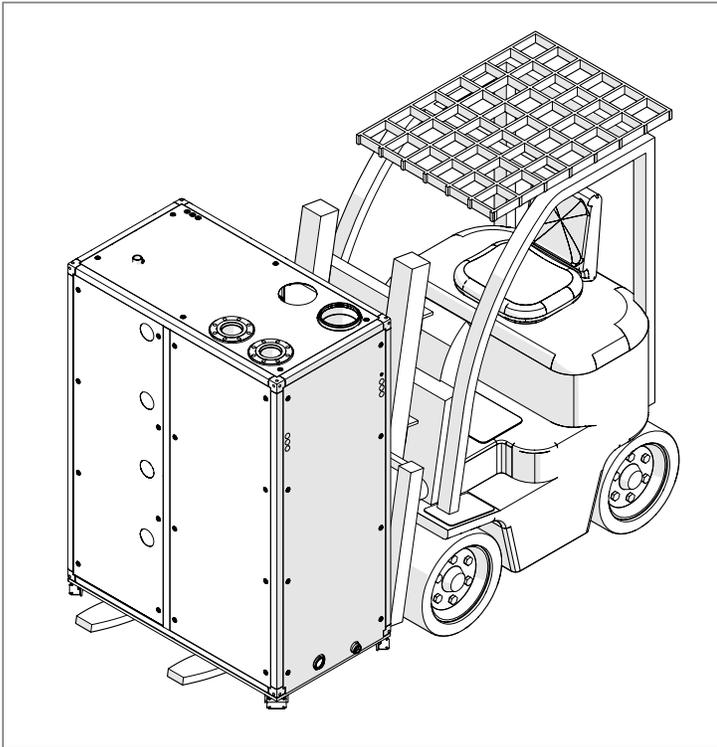

Fig. 5 Array AR 1000, AR 1500 and AR 2000 Forklift Handling
**⚠ WARNING:** When lifting or moving the boiler with a forklift: make sure the forks are longer than the boiler size (width or depth) so that the lifting forks stick out as Fig. 5.